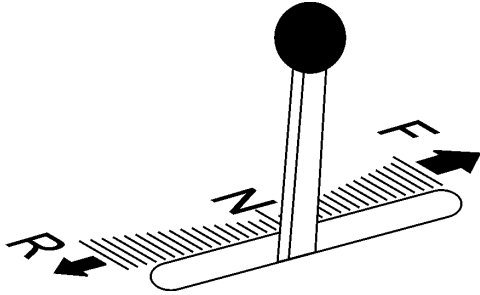

Figure 27. Travel Lever (Neutral Position)
1. Place the travel lever in the neutral position (Figure 27).